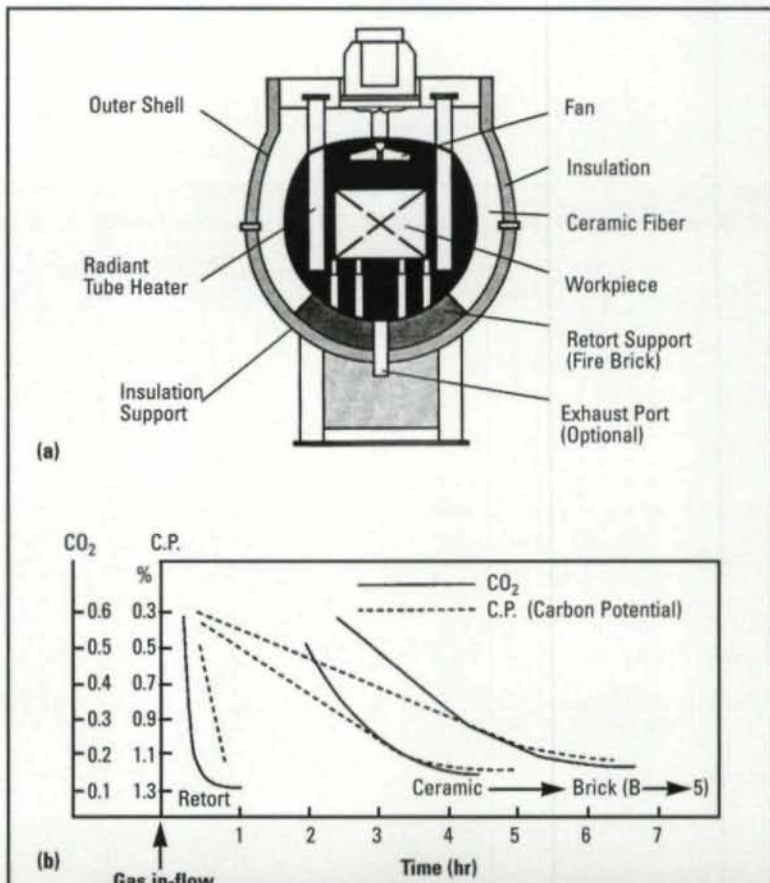

Fig. 8 — (a) Metal-lined batch atmosphere furnace. (b) Relative rate of conditioning between ceramic-lined and metal-lined batch atmosphere furnaces.
**Atmosphere Integrity.** The atmosphere integrity depends on the type of furnace lining. While ceramic furnaces can be used after suitable conditioning, the metallic type is preferred. (Fig. 8 shows the relative rate of conditioning between the two types of furnaces.) When the metal retort type is used, high atmosphere integrity can be guaranteed subject to the purity levels of the gases being used. The control of the level of oxygen or mixtures of gas, such as nitrogen/methanol, needs to be monitored by oxygen probes or an equivalent system.